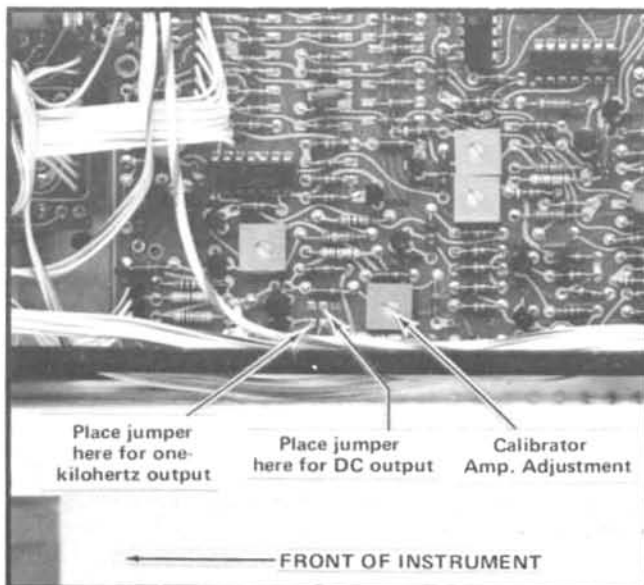

Fig. 2-8. Location of Calibrator adjustments (Cal-Storage board).
- Change jumper P1066 (see Fig. 2-8) to the DC position.
- ADJUST—4 Volts adjustment R1077 (see Fig. 2-8) for a meter reading of exactly 4 volts.
- Change jumper P1066 (see Fig. 2-8) to the AC position.